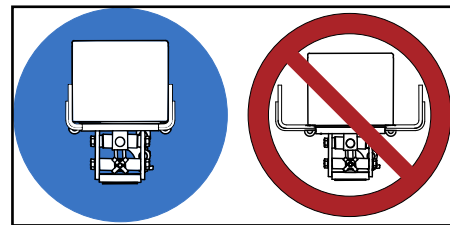

Fig. 3: Securing component
- ⚠ **Secure component firmly using manufacturer supplied brackets and adapters**. When possible, component should rest directly on the lift platform (Fig. 3).